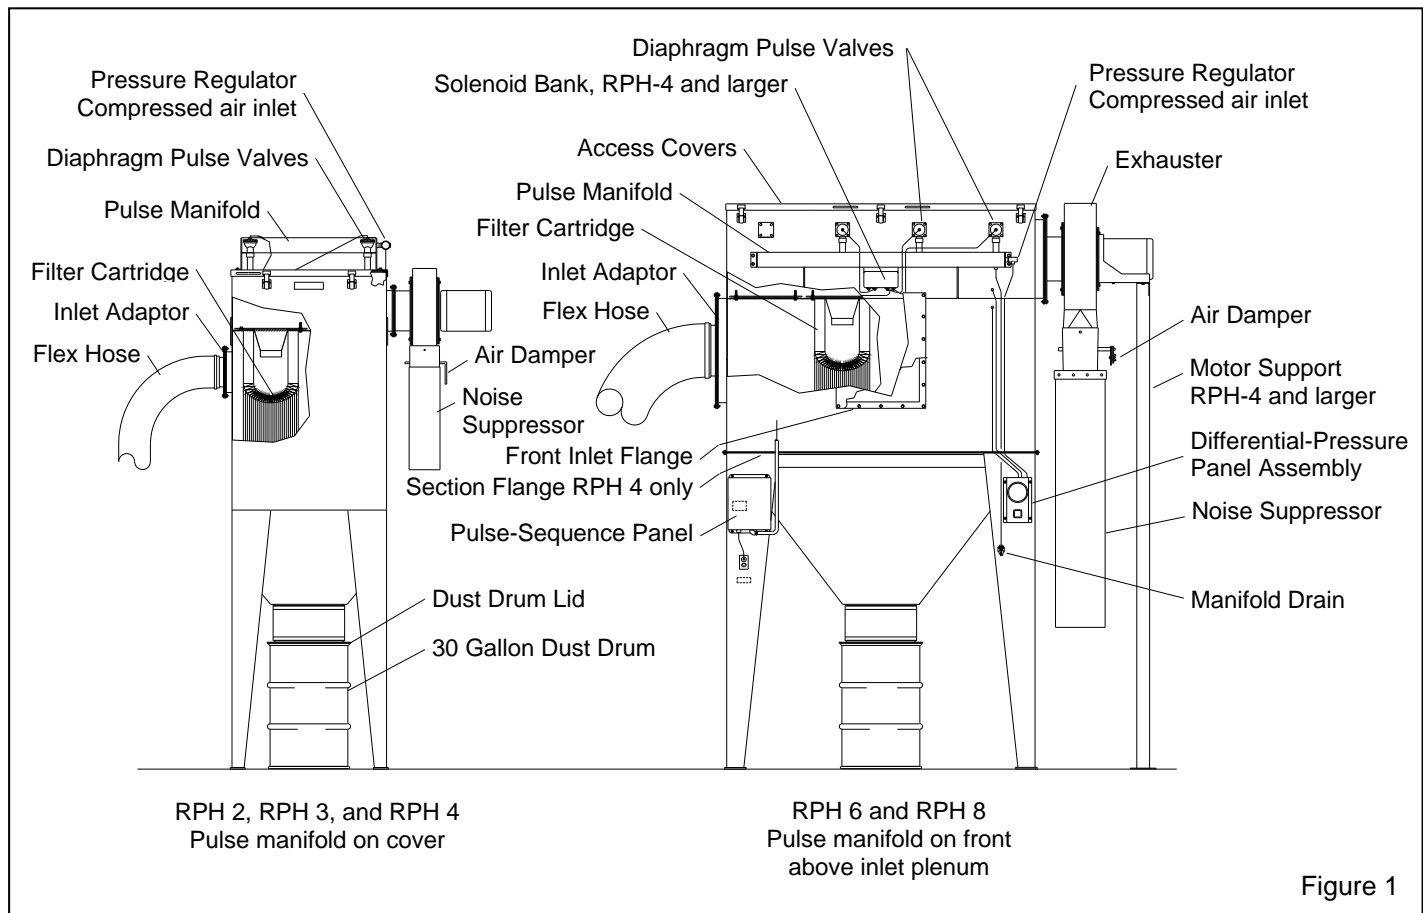

Figure 1
1.4.1 RPH Dust Collectors are dry, reverse-pulse cartridge collectors, primarily used to ventilate and recover media from blast cabinets, to convey media with pneumatic recovery systems, and provide the air-wash for AWAC abrasive cleaners. The general assembly drawing with call-outs used in the manual are shown in Figure 1. RPH dust collectors are available in six sizes.
2.7.4 Some tubing may be disconnected for shipping purposes. Refer to the general arrangement in Figure 1 and the illustration of the differential-pressure indication panel in Figure 5 to confirm that all connections are made.